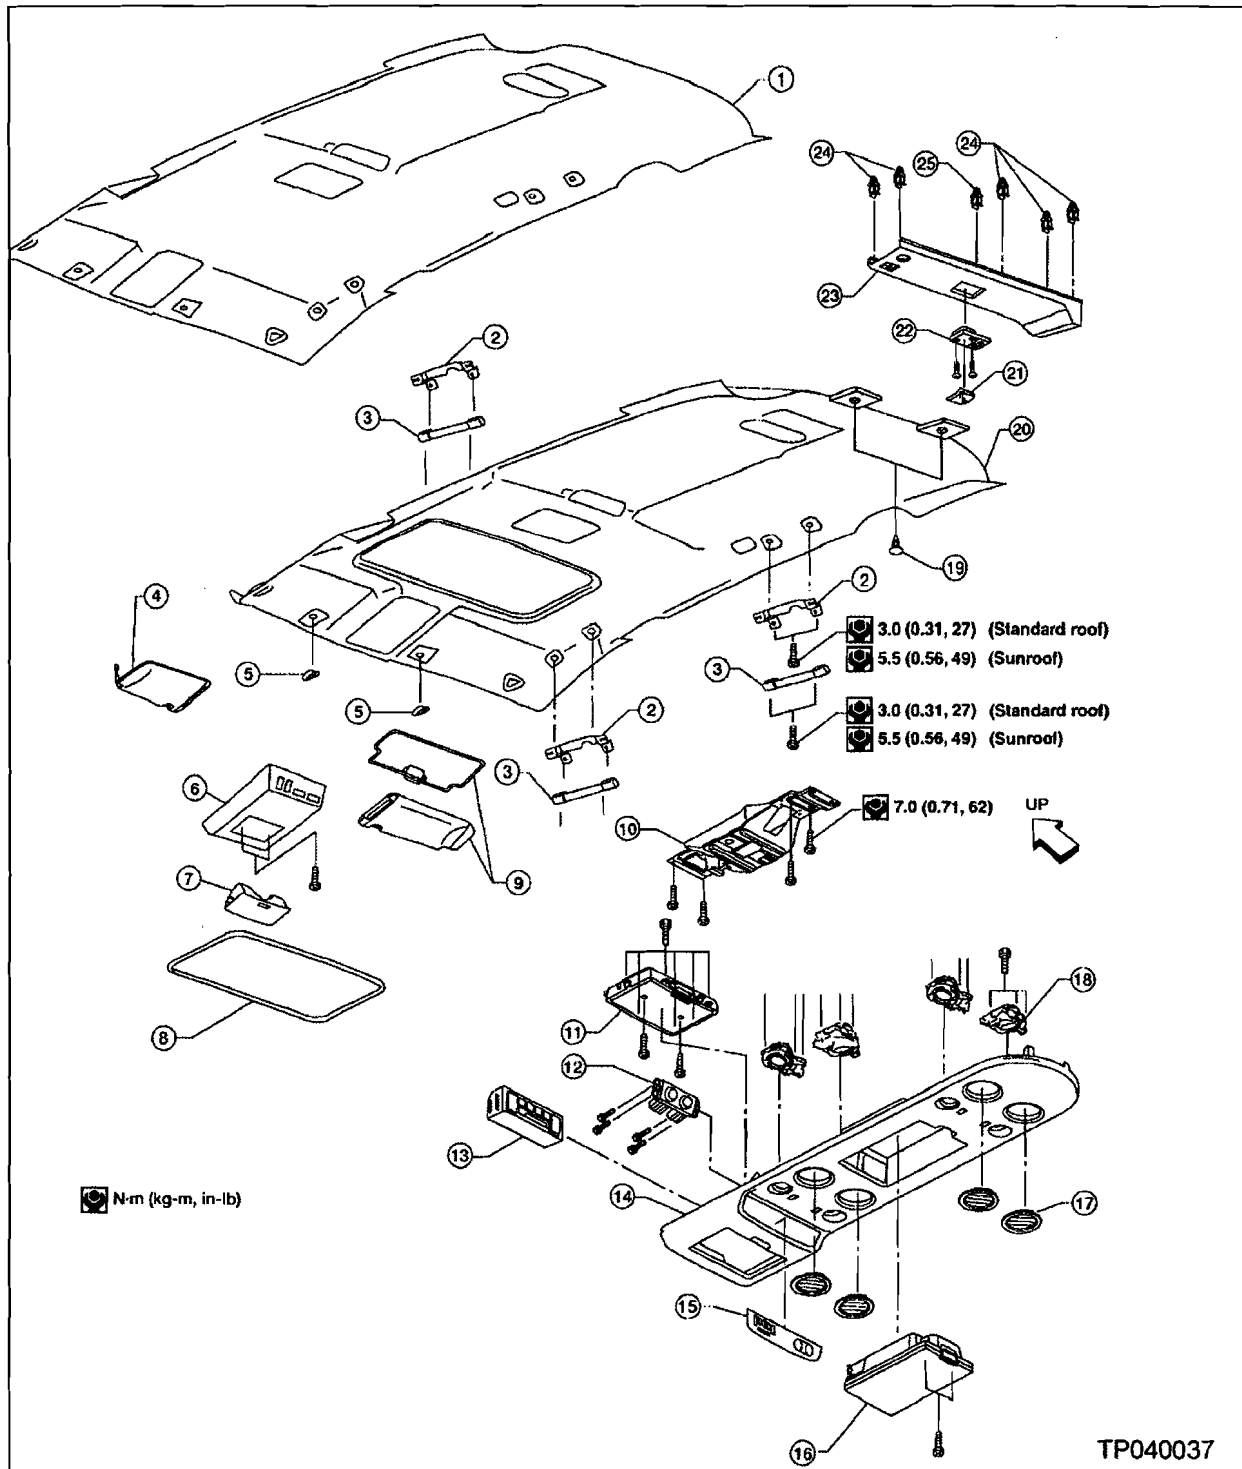

Figure A37
5. Remove the following items from the roof (Refer to Figure A37 on the next page):
- Variations in model trim levels may require the removal of additional items shown in Figure A37.